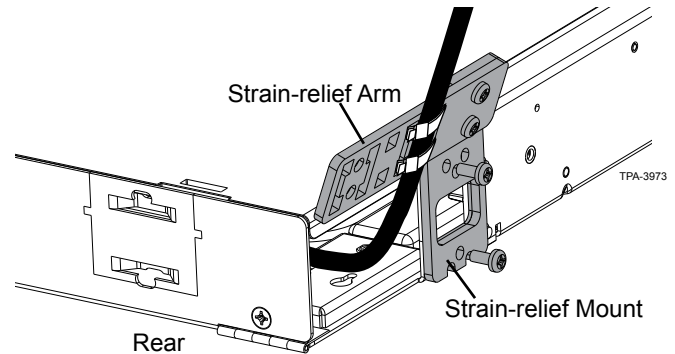

Figure 11
**Step 1:** Align the window of the external strain-relief assembly with the window on the housing (Figure 11). Insert the two provided screws and tighten completely.